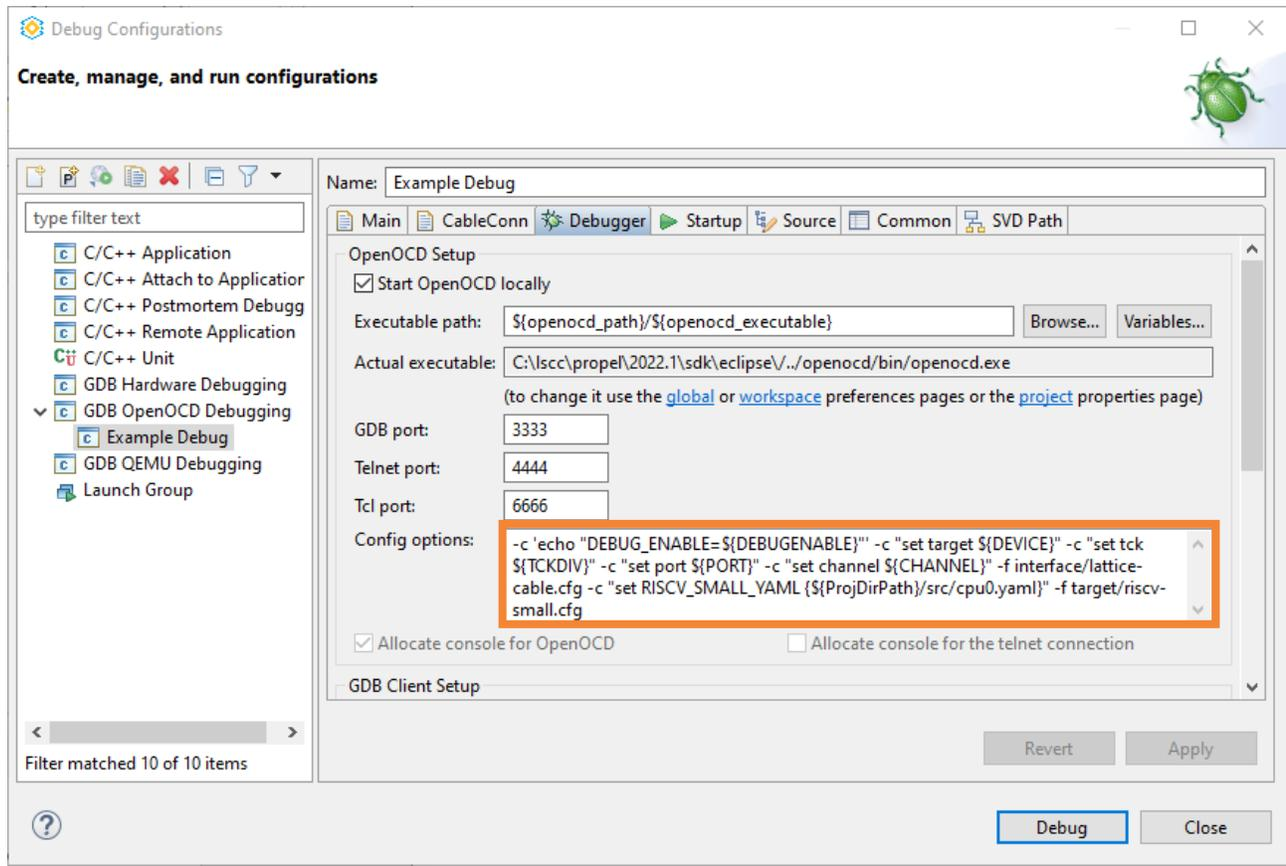

Figure 3.33. Debugger Tab of Debug Configurations
6. Select the **Debugger** tab (Figure 3.33). It is critical that the **Config options** field contains the correct command line options to be passed to OpenOCD.